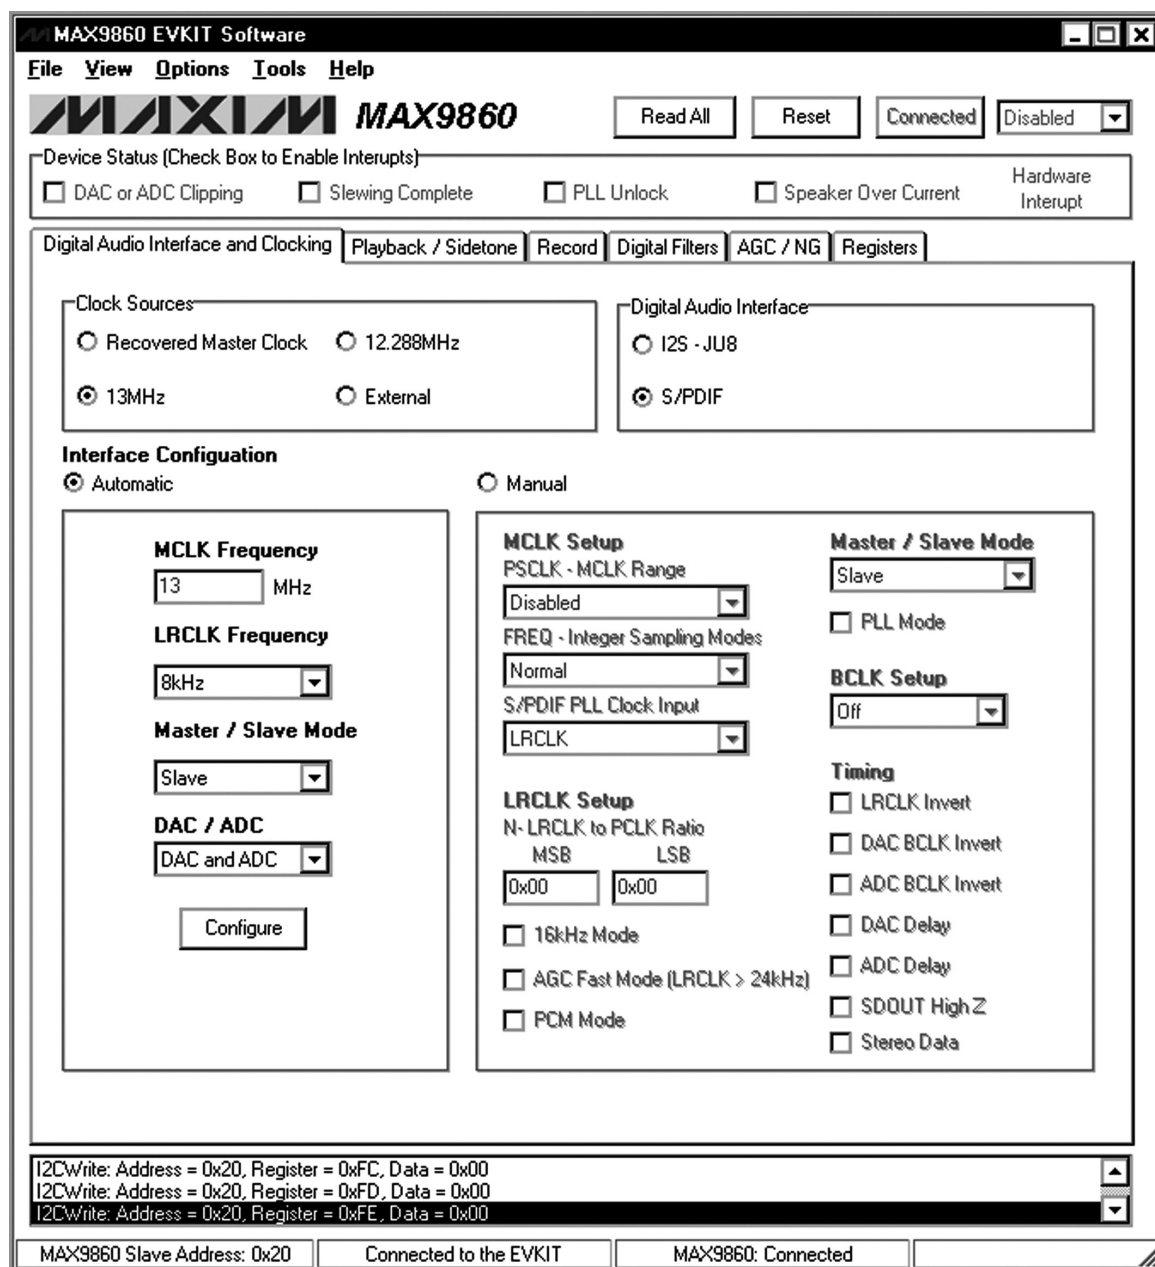

Figure 1. MAX9860 Evaluation Software Main Window
- 15) The EV kit software main window appears as shown in Figure 1. Verify that the message **MAX9860: Connected** is displayed on the status bar at the bottom of the software's main window.
The **Digital Audio Interface and Clocking** tab sheet (Figure 1) contains the master clock (MCLK) and digital audio interface selections for the MAX9860. A user can select an automatic typical interface configuration or manually configure the device according to specific requirements.